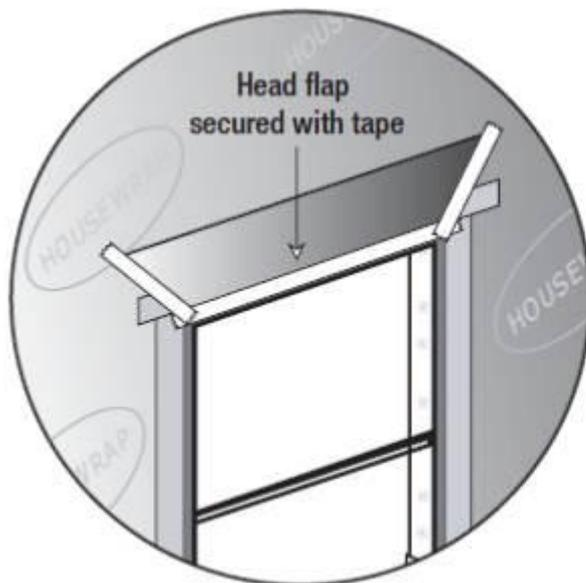

Figure 6 - Tape down the housewrap head flap.
- Unfold the housewrap and lay over the head flashing. Tape bottom edge of housewrap across the top window flange and tape down corner seams of housewrap. See Figure 6.